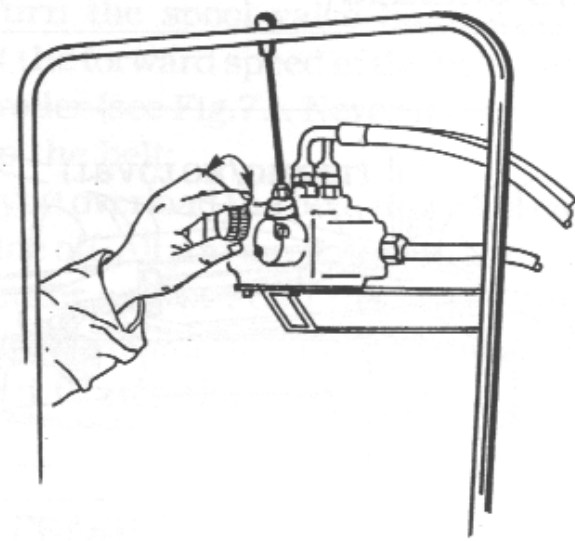

fig. 7
13. Turn the spool valve hand-wheel to adjust the forward speed of the belt and the drive roller (see Fig.7.). Never use the valve to stop the belt;